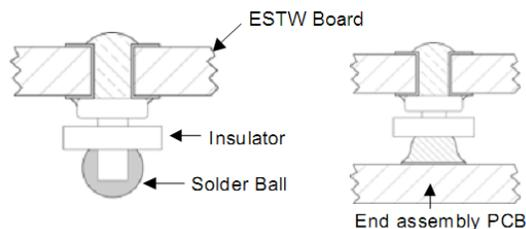

Figure 19. Column Pin Connector Before and After Reflow Soldering .
The surface mountable modules in the ESTW family use our newest SMT technology called “Column Pin” (CP) connectors. Figure 19 shows the new CP connector before and after reflow soldering onto the end-board assembly. The CP is constructed from a solid copper pin with an integral solder ball attached, which is composed of tin/lead (Sn/Pb) solder for non-Z codes, or Sn/Ag₃/Cu (SAC) solder for -Z codes.